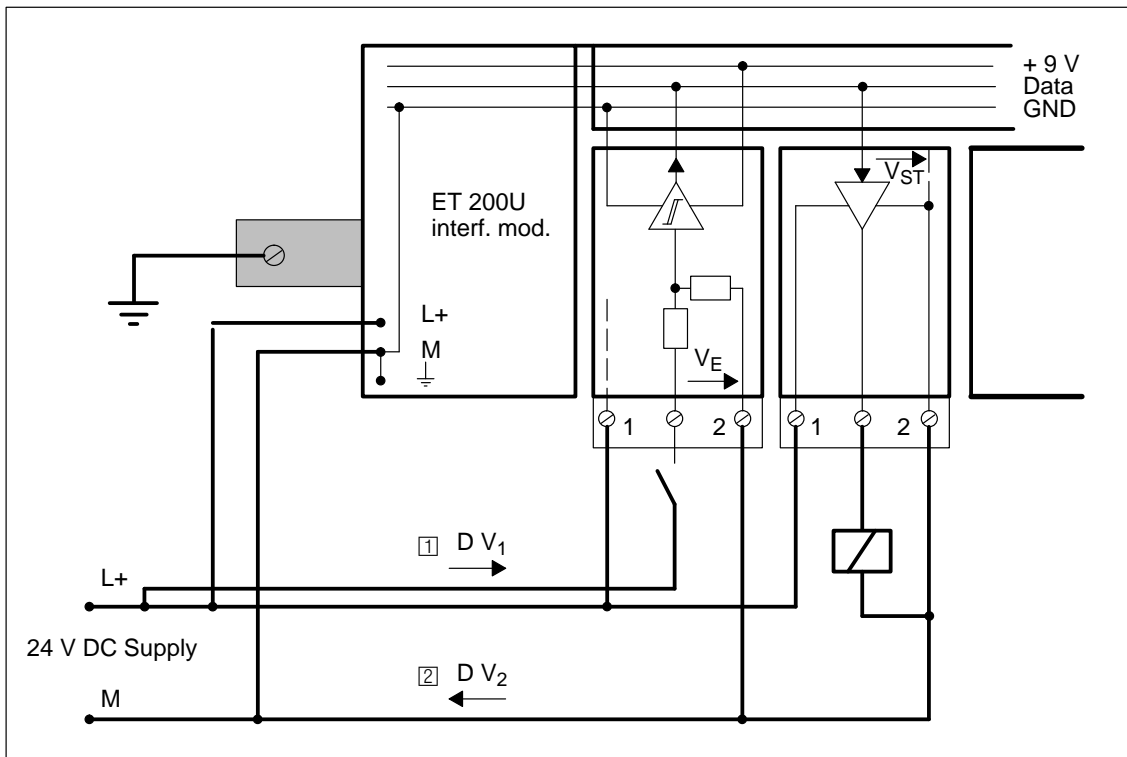

Figure 3-21 Simplified Illustration of a Configuration with Nonfloating I/O Modules
Nonfloating I/O modules work according to the following principle (see Figure 3-21):
Reference potential is terminal 2 (M) of the terminal block. A voltage drop ΔV_2 on line 2 increases the chassis ground of the output driver and in this way lowers the resulting control voltage V_{ST} (see Figure 3-21).
For a nonfloating configuration, make sure that the voltage drop on lines 1 and 2 never exceeds 1 V. Otherwise the reference potentials shift and the modules can malfunction (see Figure 3-21).